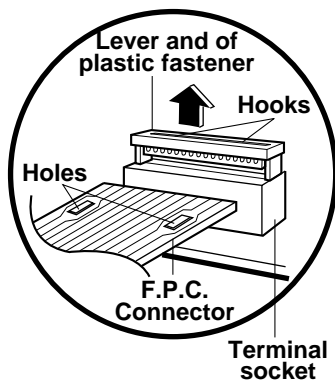

Figure 11
- (2) Lift up the lever and of the plastic fastener from the terminal socket by lightly pressing the lever end with thumb and forefinger. (Figure 11)
- (3) Remove the F.P.C. connector from the terminal socket.